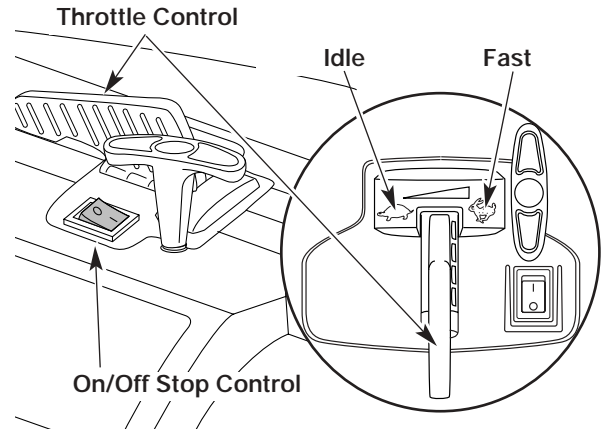
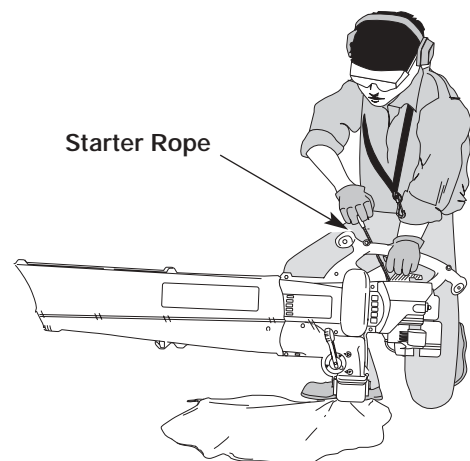

Fig. 9
Fig. 11
WARNING: Avoid accidental starting. Make sure you are in the starting position when pulling the starter rope (Fig. 11). To avoid serious injury, the operator and unit must be in a stable position while starting. Do not set unit on any surface except a clean, hard area while starting. Debris such as gravel, sand, dust and grass could be picked up by the air intake and thrown out by the discharge opening. This could damage the unit, property, or cause serious injury to bystanders or the operator.
4. Place the unit in the starting position (Fig. 11). Move the throttle control to the idle position (🐹) (Fig. 9).